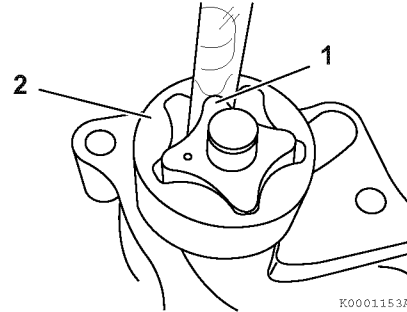

Figure 9-15
Determine the outer rotor to inner rotor tip clearance. Insert a feeler gauge between the top of an inner rotor tooth (Figure 9-15, (1)) and the top of an outer rotor tooth (Figure 9-15, (2)) and measure the clearance.